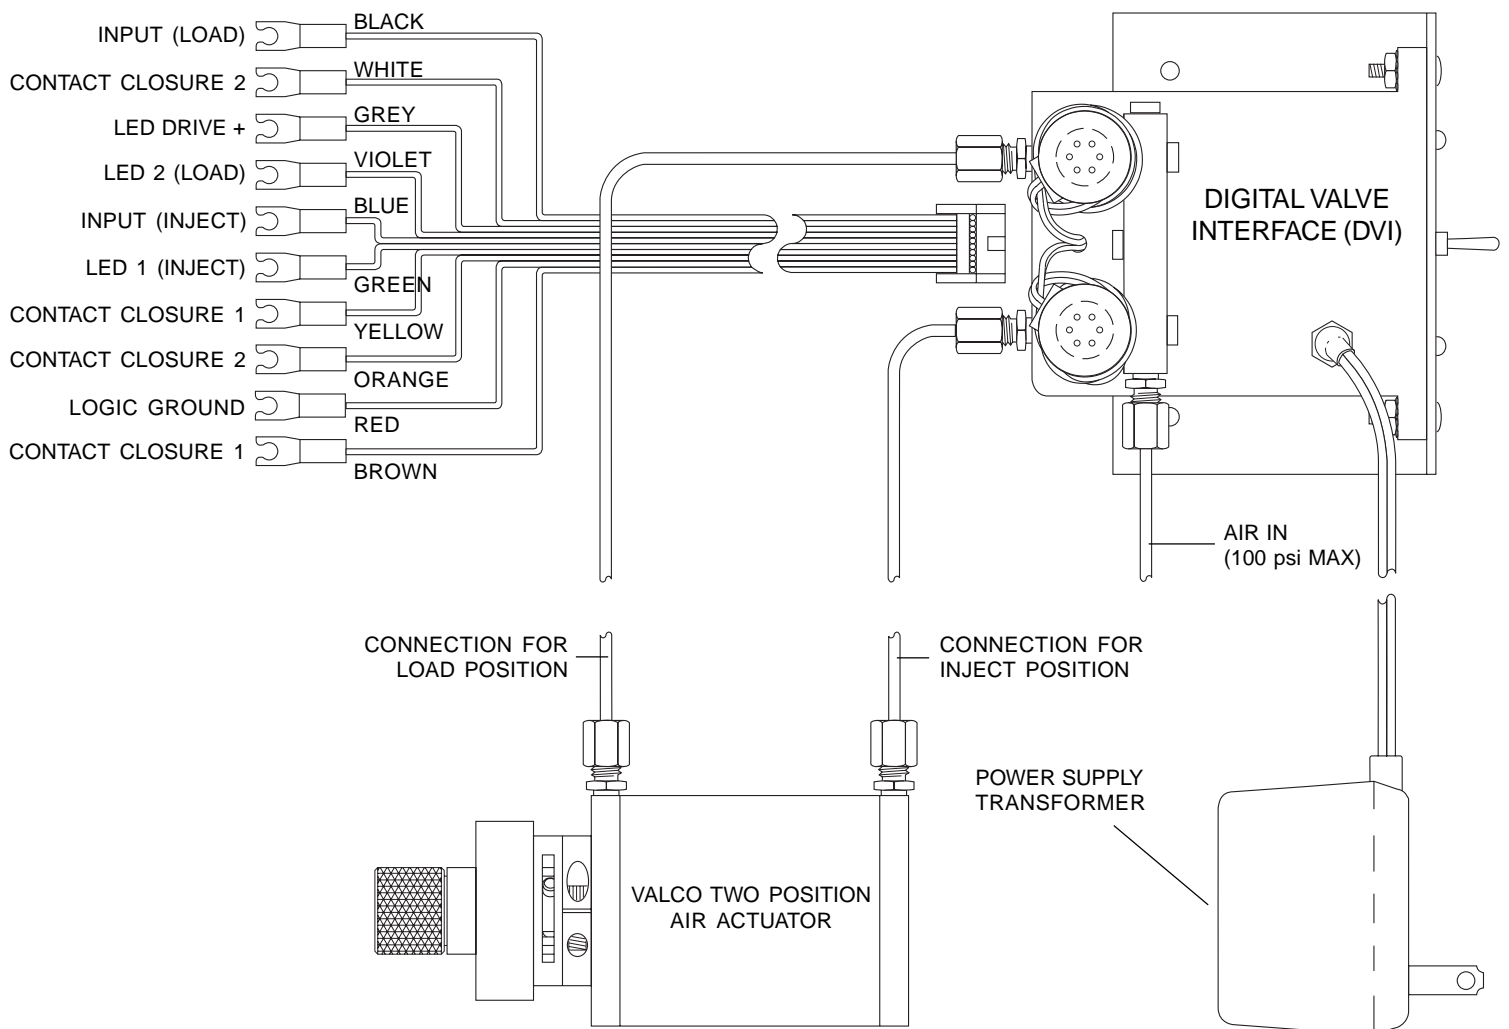

Figure 3: DVI connections
1. Connect the air lines between the DVI and the air actuator as shown in **Figure 3** on the back page.